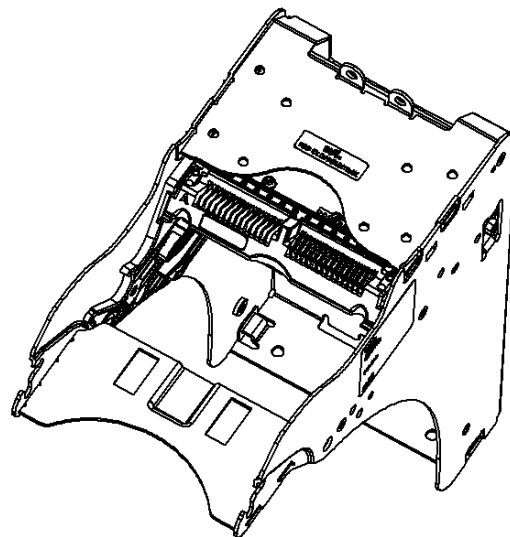

fig.2B
5. Apply the **FCC ID label** to the top of the chassis. See fig.2B